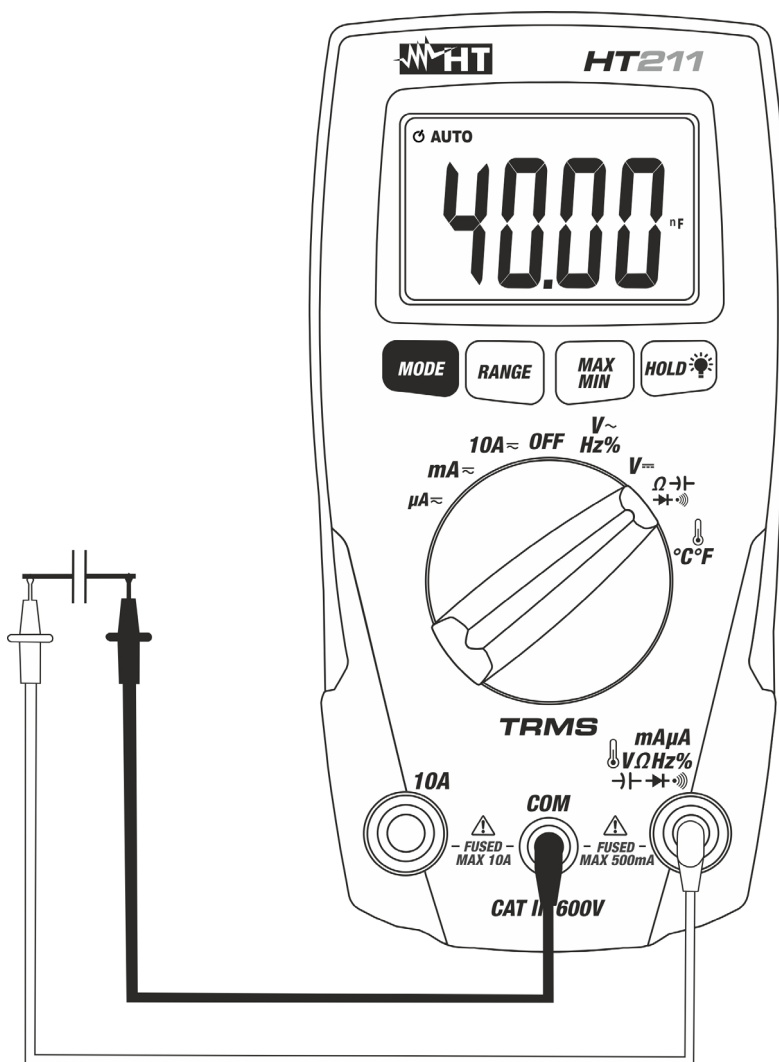

Fig. 7: Using the instrument for Capacitance measurement
4. Connect the red and black test clamps to the capacitor terminals respecting if necessary the proper polarities (see Fig. 7). The capacitance value is shown on display